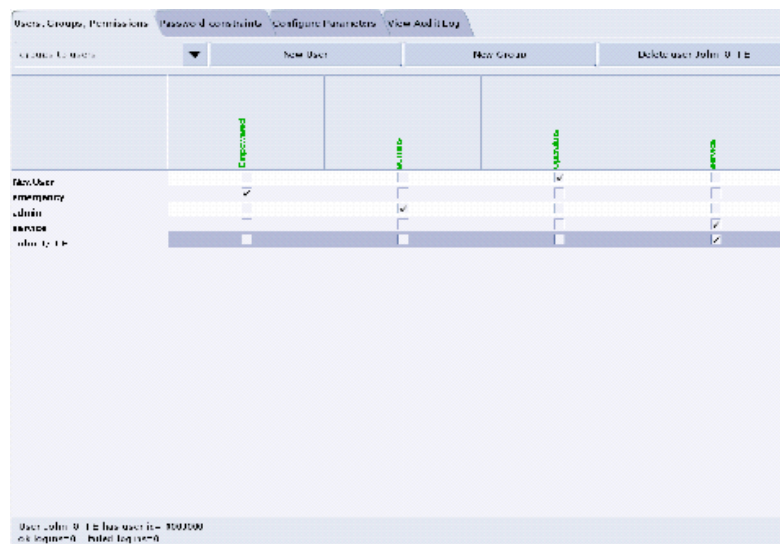

Figure 4-15 Using the User, Groups, Permissions screen
- 8.) If an account for a service user has been added, select groups to users from the pull-down menu, and assign the service user to group Service by selecting the check-box under Service in the row of the new user name, e.g., John_Q_FE (see Figure 4-15).